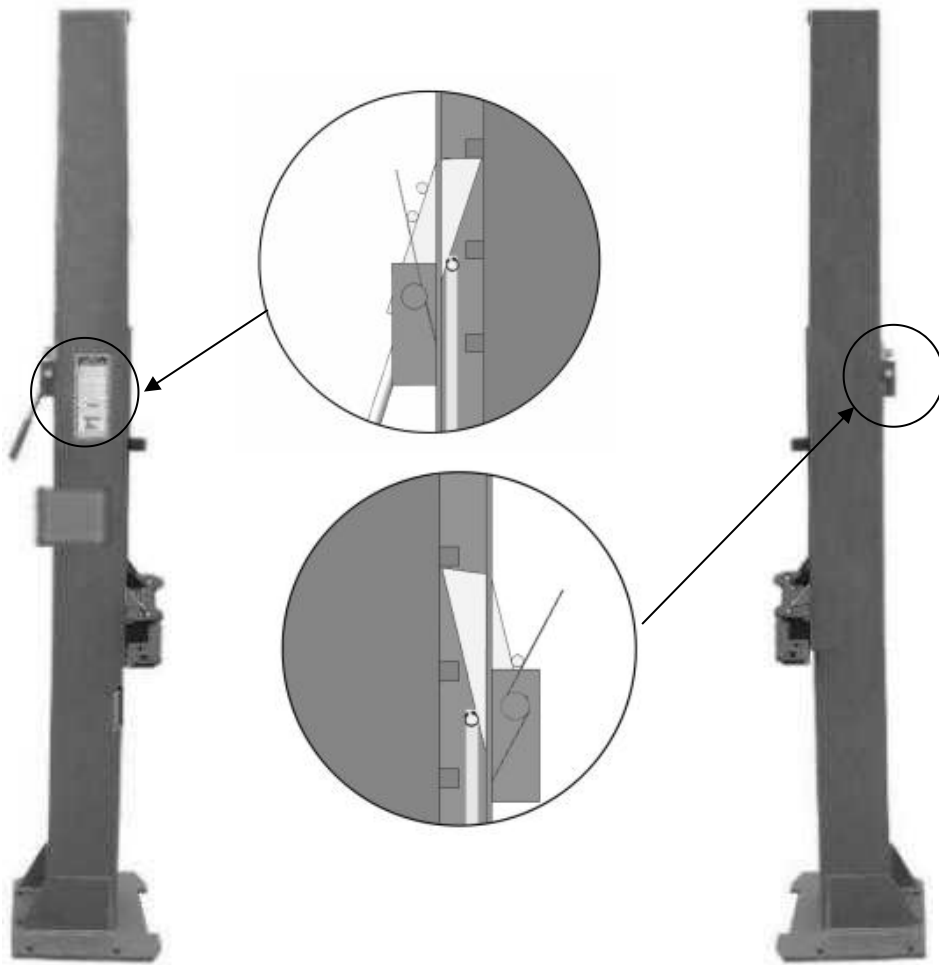

Fig.16
G. Raise up the carriage and lock it in the same position of safety device, see Fig.16